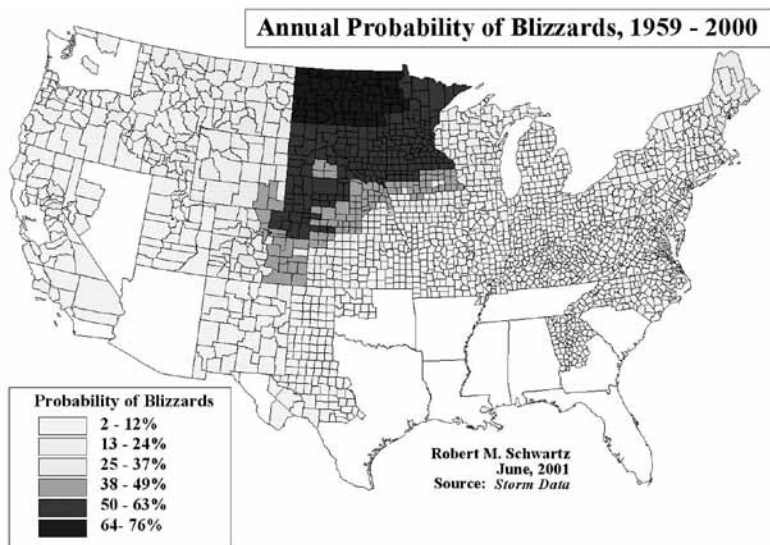

Figure 2. Annual probability of a blizzard by county, 1959–2000 (source: Robert M. Schwartz)
- In the winter of 1996-97, when 14 blizzard warnings were declared, Mn/DOT's total cost for snowplowing and removal was more than \$250 million. Seeley referred to the National Weather Service's official definition of a "blizzard," which can be found at: <http://web.archive.org/web/20050829022450/http://www.crh.noaa.gov/mpx/nwseventdef.html>. In fact, as shown in Figure 2, Seeley said Minnesota is the North American bulls-eye for blizzards. In any given year, there is a 50 to 76 percent probability that a blizzard will strike our state.